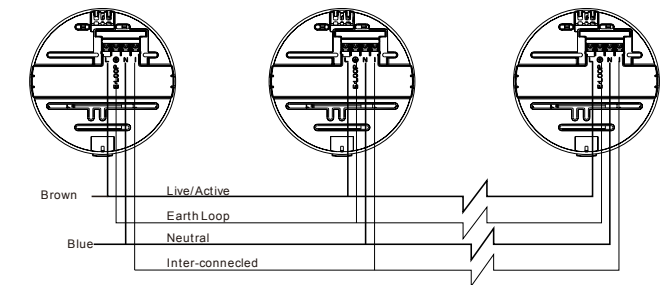

Fig. 7 – Interconnect wiring
7. Where interconnection to other ZT-MS AC/DC smoke alarms is used, install the interconnection wiring as shown in Fig. 7.